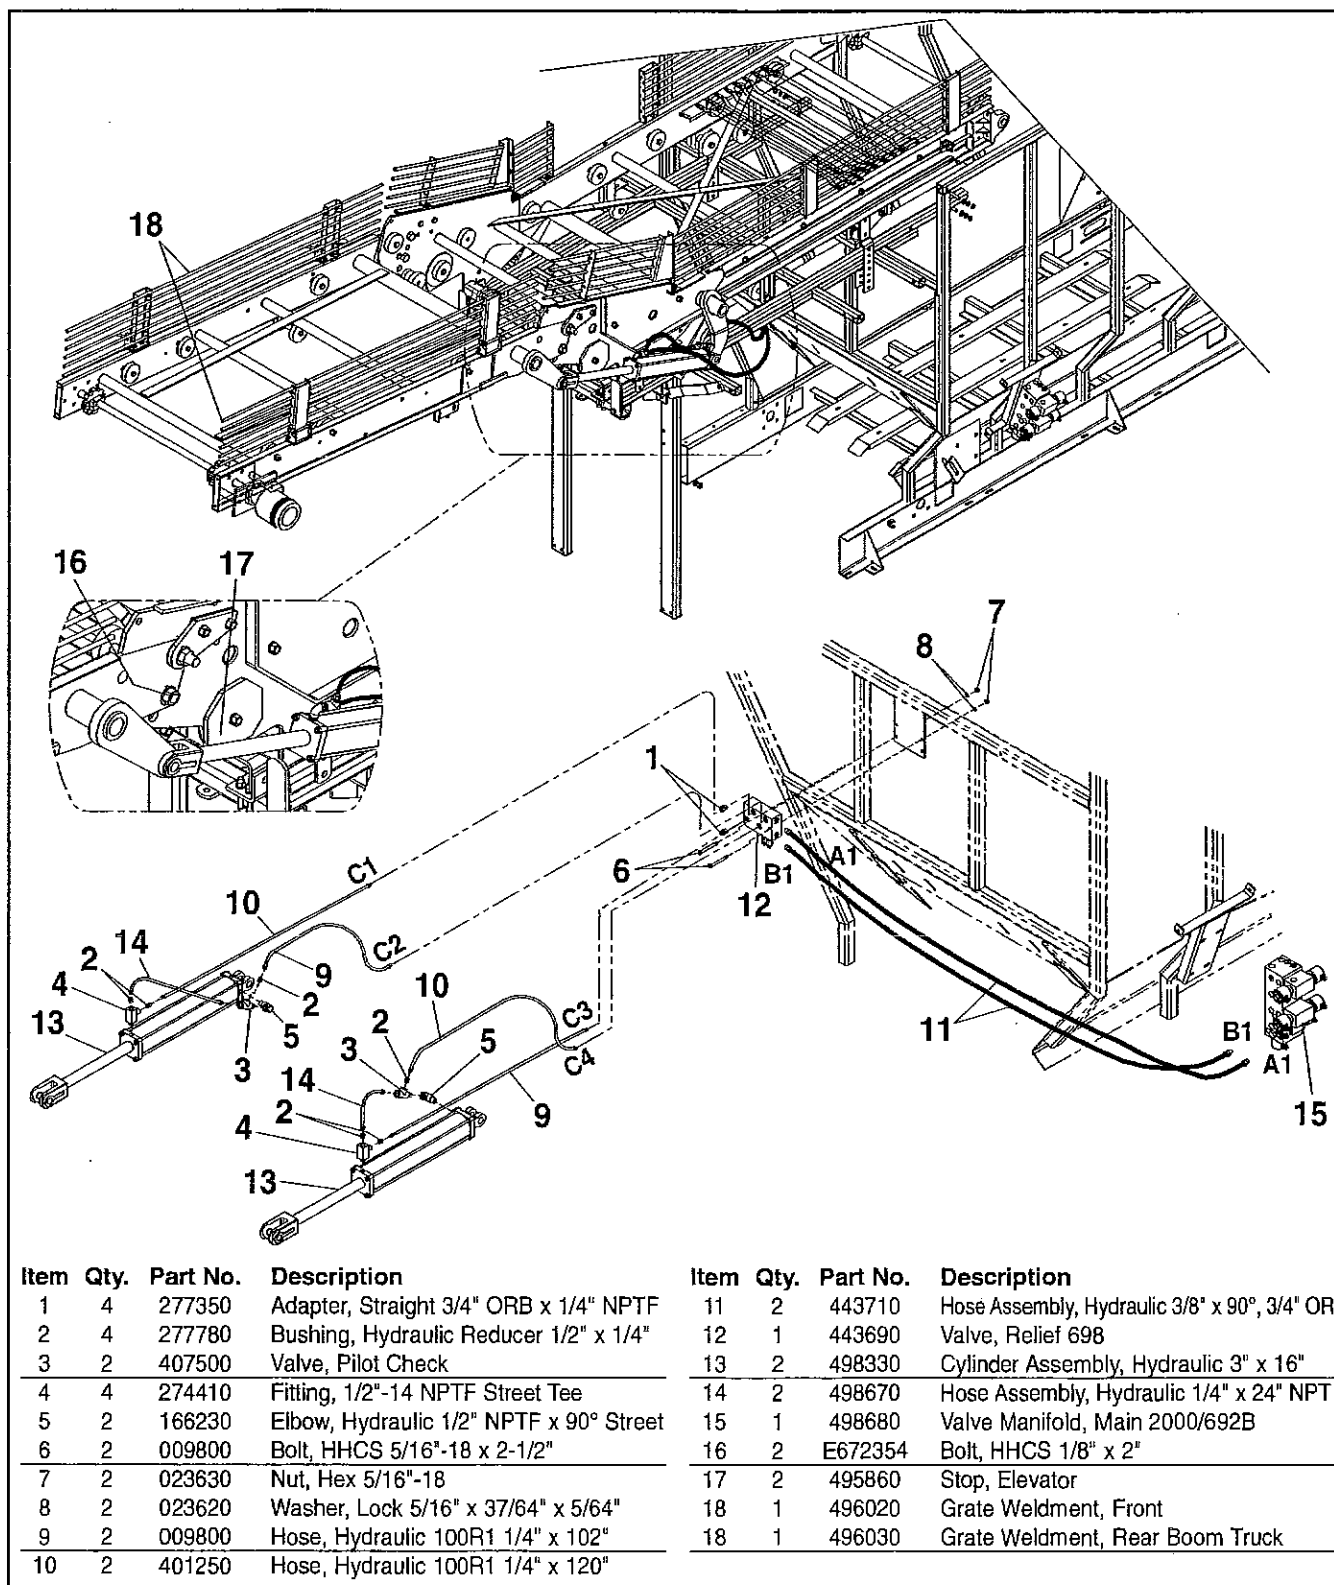

Figure 3.09: Elevator Hydraulics.
1. Install Braces, front and rear (items 5 and 6) as shown from 2" x 4" tube out to 2-1/2" square tube on track. Install the bar braces (item 3) as shown forward and rearward to track, replace existing bolt with 1/2" x 4".
- A. Check to make sure the Temporary Support (item 22) is in place from the track to the channel in the main elevator.
- C. Before removing the tie strap (items 18 and 19) and shipping angle (item 23) that hold truck elevator to track and tank elevator to high side of tank; make absolutely sure the elevator cannot tip, support explained in A is to hold from tipping.
- D. After removing the tie strap (items 18 & 19) and shipping angle (item 23), move elevator assembly out into the position selected with the 2-1/2" square tubes (item 20) directly over each other. As you are moving the elevator out and have it securely supported; remove the temporary support (item 22) from the track to the channel in the main elevator.
- E. Install two inner elevator tie bars (item 4) on each side securing the tank elevator to the track inside the tank, leave bolts loose. Supporting the end of the truck elevator remove bolts on inner elevator tie bars (item 4), tilt elevator to the desired position for truck height then attach and tighten elevator tie bars.
- F. Install the four (4) outer support angles (item 2) as shown using the u-bolts and bolts and position as shown to secure 2-1/2" square tubes on track and tank elevator together.
3. Install hydraulics to operate folding boom, see Figure 3.09:
- A. Hydraulic cylinders (item 13) must have end-caps rotated so ports are as shown. Note that these are right hand and left hand assemblies. Remove rods rotate solid clevis and torque rods to 76 ft-lbs.
- B. Install check valve (item 3), fittings (items 2, 4, and 5) and hoses (item 14) to hydraulic cylinders (item 13) for boom fold as shown.